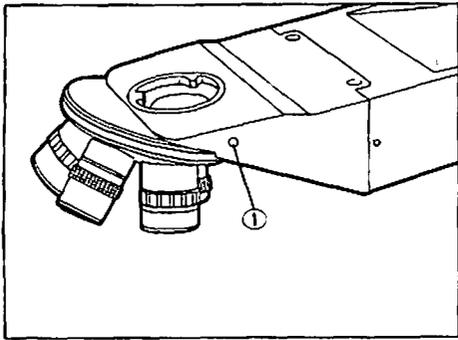
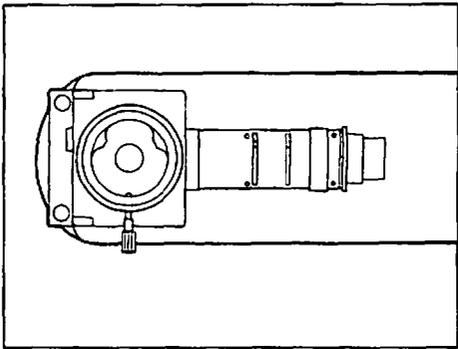

Fig. 10
Fig. 11
1. Fully loosen the vertical illuminator clamping screw ① as shown in Fig. 10 with the Allen® wrench, and attach the vertical illuminator to the top of the motorized revolving nosepiece. Clamp the unit lightly so that it is parallel to the arm. (Fig. 11)
★ Fully tighten the clamping screw ① only after having attached the lamp housing. (Fig. 10)
For the 50W Halogen Lamp Housing (BH2-ULSH) (Fig. 11)